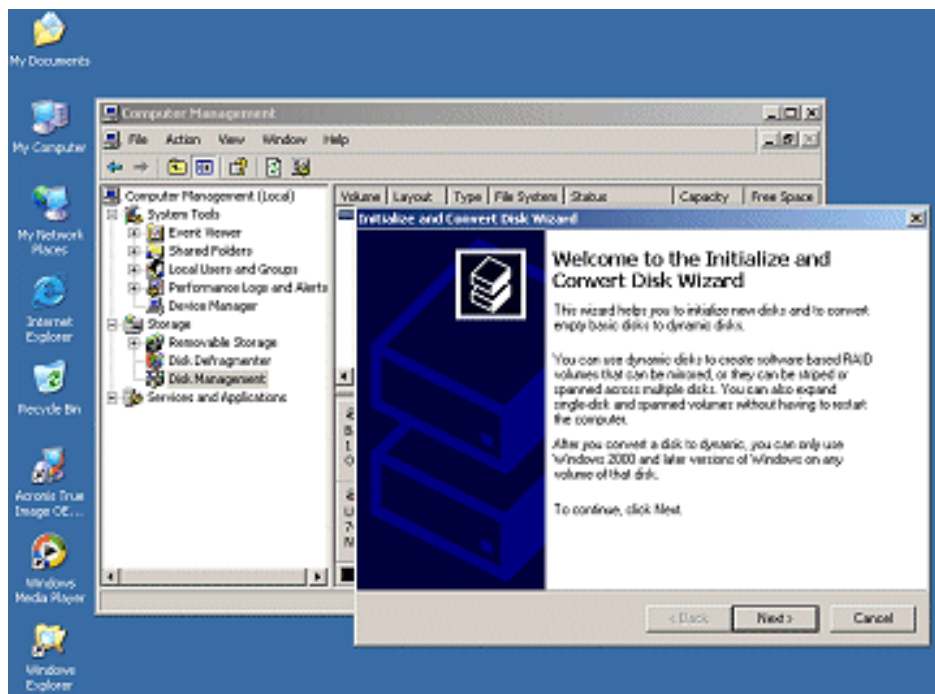

Figure 3-22. The Initialize and Convert Disk Wizard
- 17) Once the system has booted up into Windows®, right-click on the **My Computer** icon and then select the **Manage** option. In the ensuing **Computer Management** dialog, click on the **Disk Management** item. As you have just created a new RAID array, this will automatically launch the **Initialize and Convert Disk Wizard** as shown in Figure 3-22.